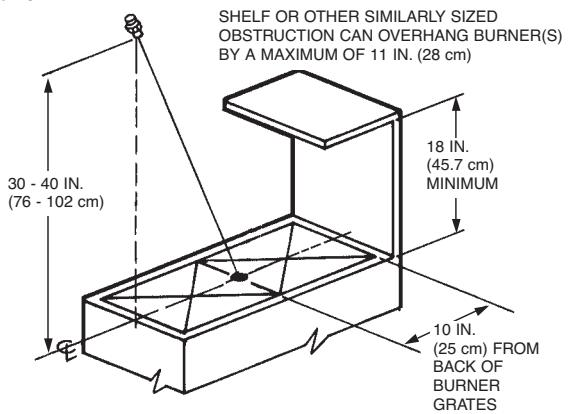

FIGURE 38
- 384 in.2 (2477 cm2). Nozzle must be located on the front edge of the burner grates and aimed at a point 10 in. (25 cm) from the back edge of the burner grates. Nozzle must be mounted 30 to 40 in. (76 to 102 cm) above the hazard surface. See Figure 38.